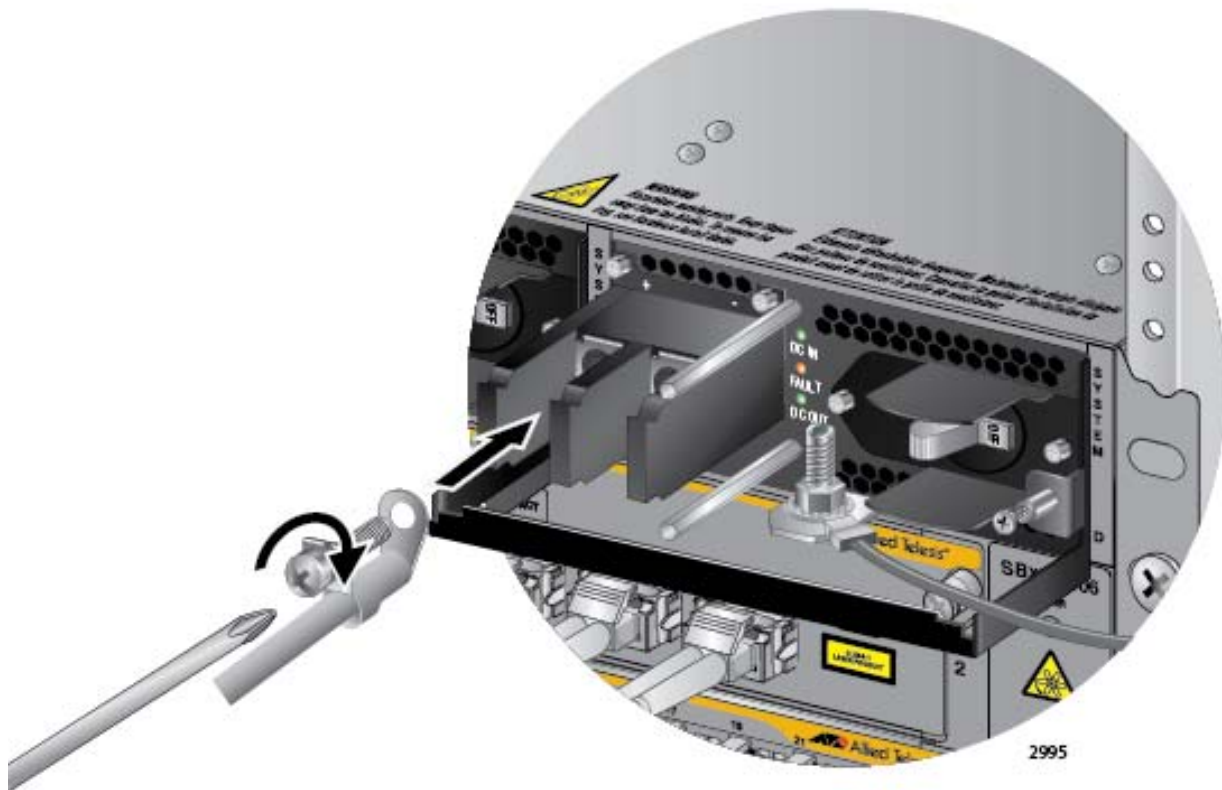

Figure 136. Connecting the Positive (+) Power Wire with a Right Angle Terminal
6. With a #3 Phillips-head screwdriver, connect the positive (+) power lead wire to the positive terminal on the power supply, with one of the terminal screws removed in the previous step. The positive terminal is on the left. Refer to Figure 136 on page 202.